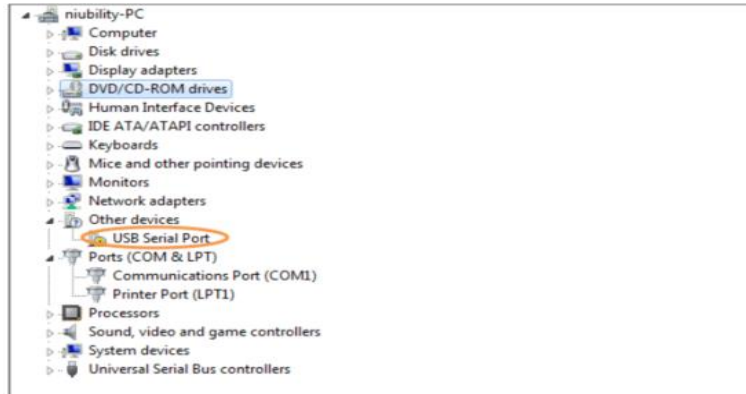

Figure 5-9 Unrecognized USB Serial Port on PC
- Open PC **Device Manager**, if you find an unrecognized USB Serial Port in Device Manager as shown in **Figure 5-9**, you should install the UART to USB driver before you run the demonstration. The driver CP210x_VCP.exe is located in the OpenVINO Starter Kit System CD directory Tool\serial_driver\, execute it and install.